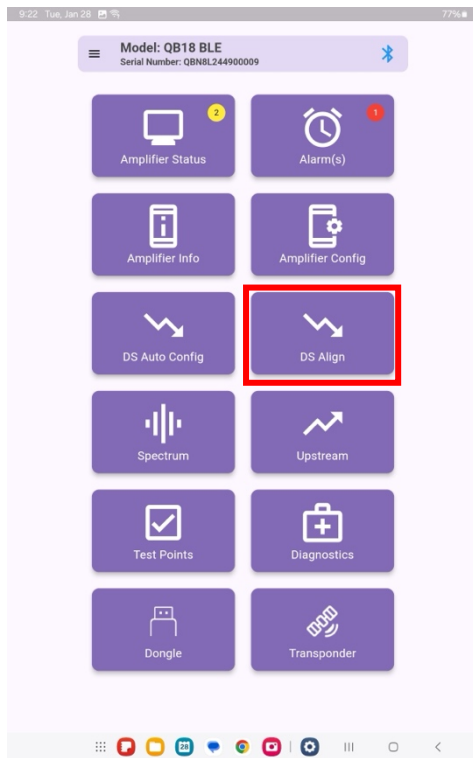

Figure A- 17: DS Align Tile
8. Select the DS Align Tile Figure A-17.